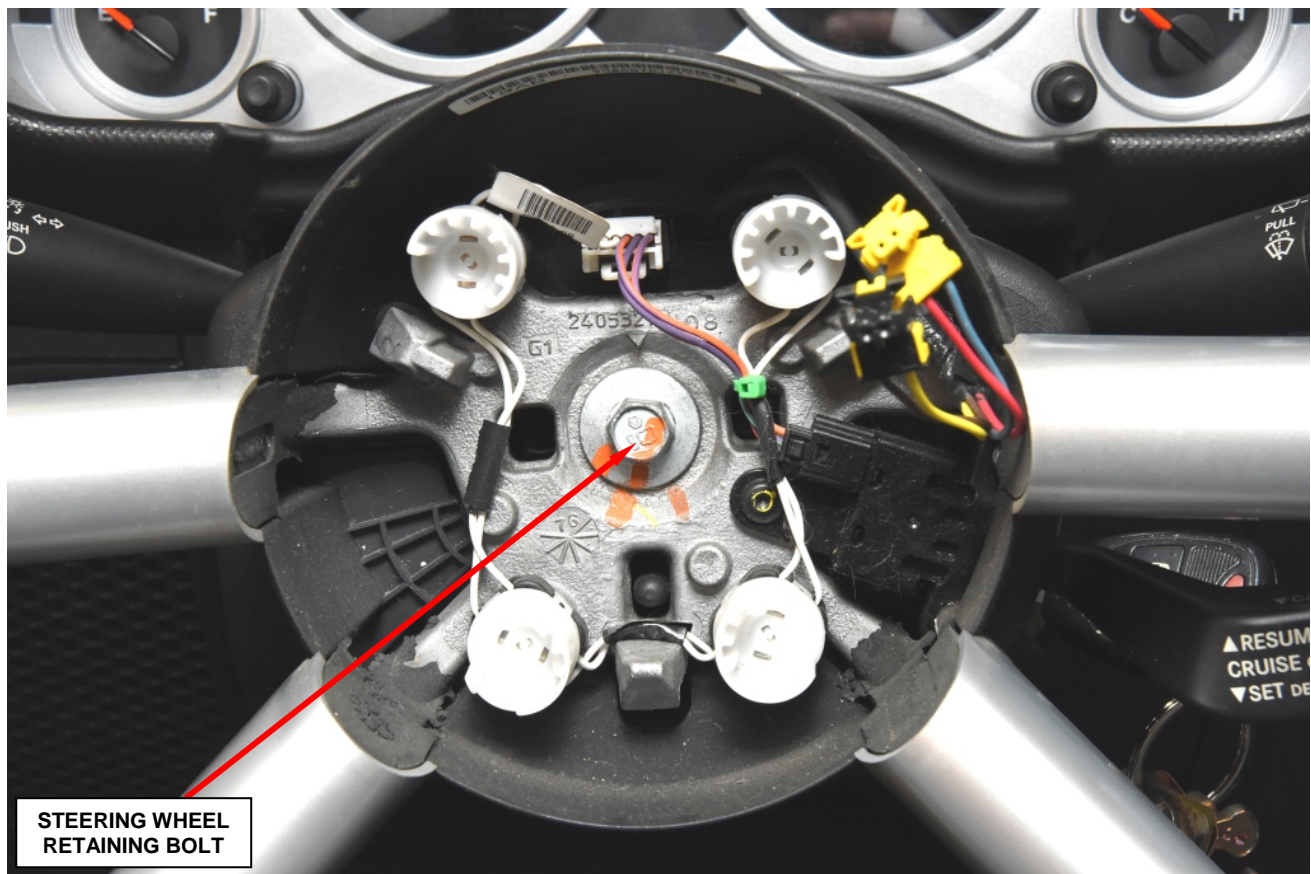

Figure 2 – Steering Wheel Retaining Bolt
5. Remove and discard the steering wheel retaining bolt from the steering shaft (Figure 2).
34. Install a **NEW** steering wheel retaining bolt and tighten the bolt to 40 ft. lbs. (54 N·m) (Figure 2).